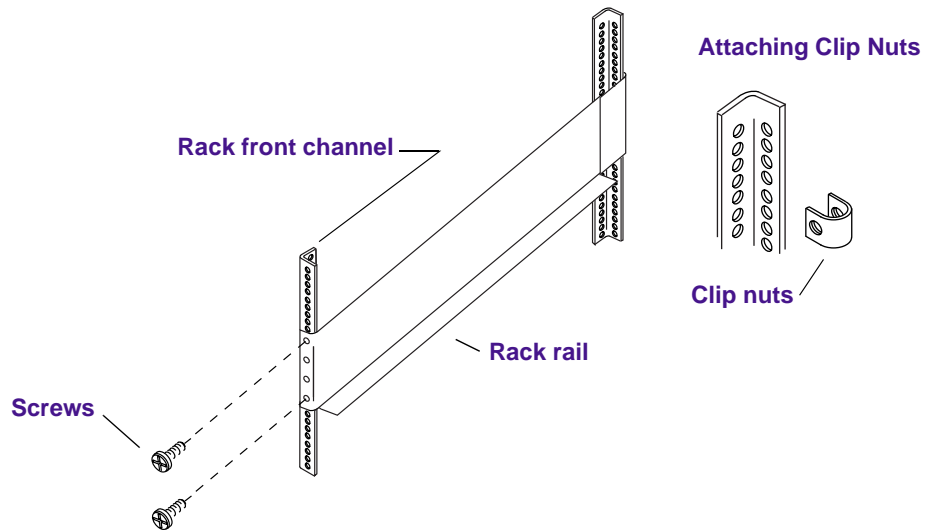

Figure 1-4 Attaching the FCDE Rails to the Rack Front Channel
If you are installing the rails in a rack that does not have threaded holes, you will also need to locate four clip nuts in the rail kit. Slip the clip nuts over the holes in the rack front channels where you will be installing the screws for the FCDE rails (see Figure 1-4).
- Loosely attach the front of each FCDE support rail to the rack front channels with the screws (see Figure 1-4).